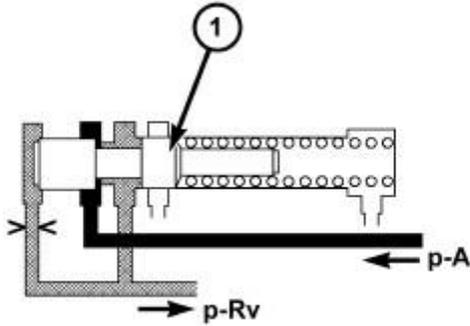

Fig. 239: Regulating Valve Pressure Regulating Valve
The regulating valve pressure ($p\text{-RV}$) is set at the regulating valve pressure regulating valve (1) in relation to the working pressure ($p\text{-A}$) as far as the maximum pressure. Refer to **Fig. 239**.